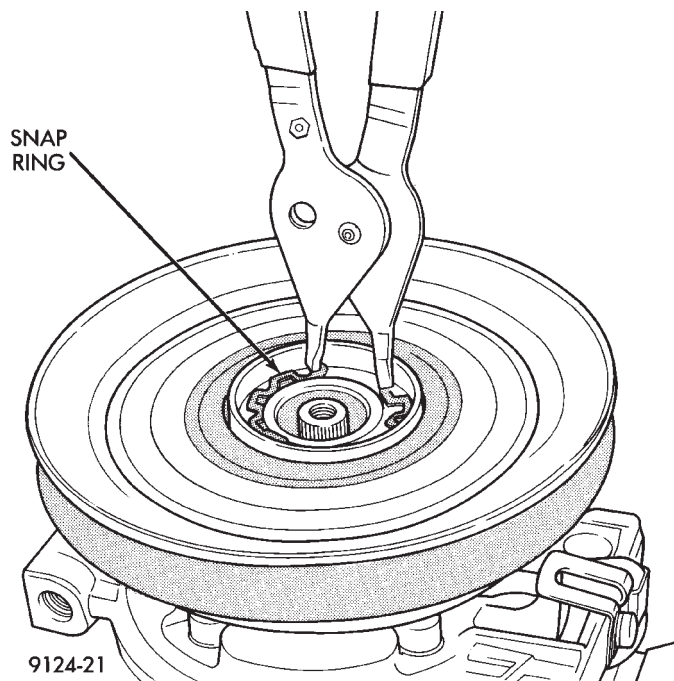

Fig. 4 Removing Pulley Snap Ring
- (3) Remove pulley retaining snap ring with snap ring pliers (C-4574), and slide pulley assembly off of compressor (Fig. 4).